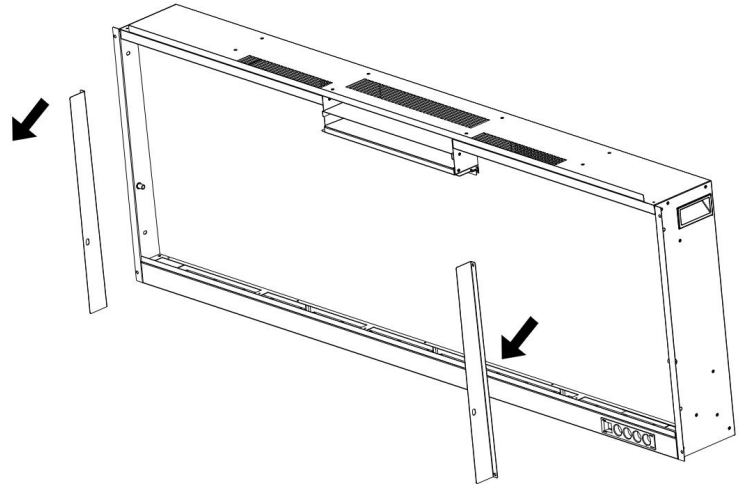

Fig. 2-2
- B. Remove the two brackets and set them aside. (Fig. 2-2)